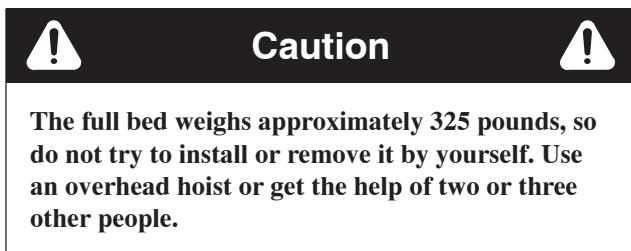

**Figure 9**
2. Remove lynch pins from outer ends of cylinder rod clevis pins (Fig. 9).